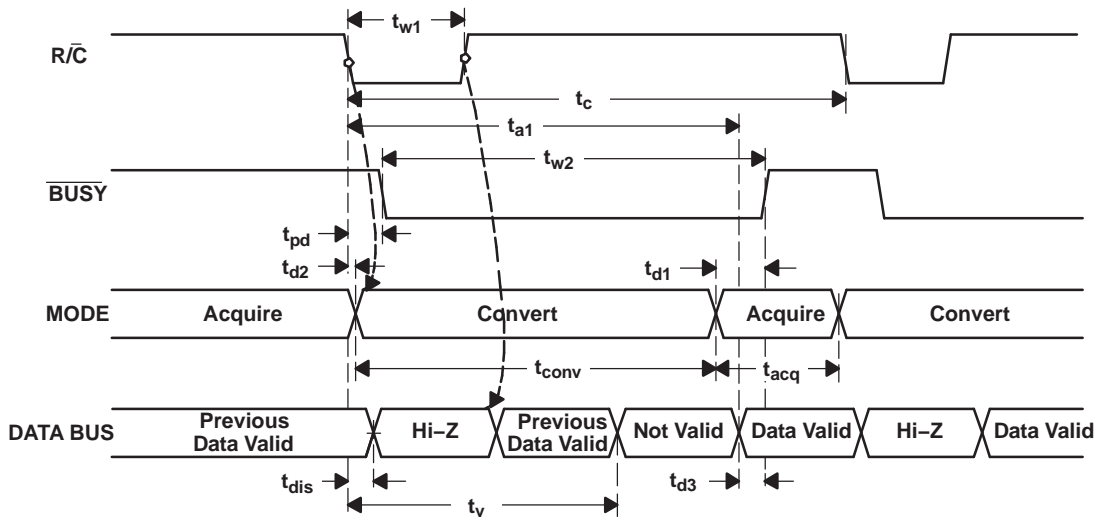
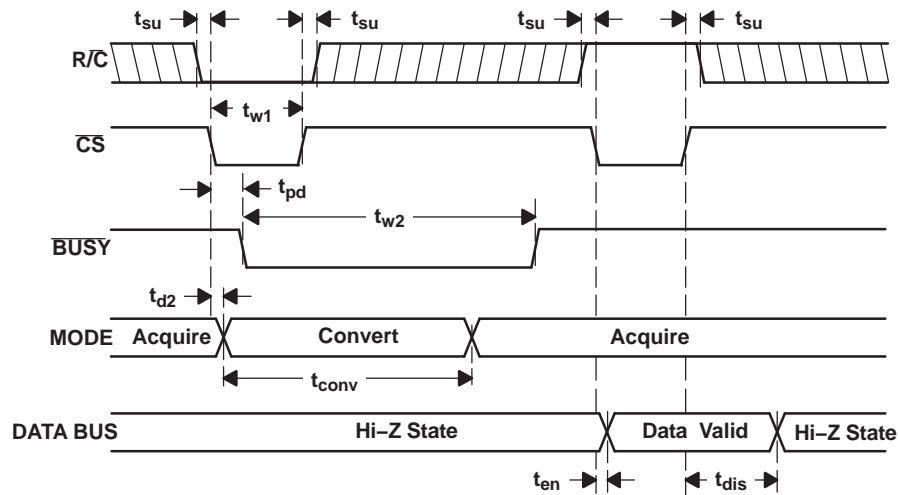
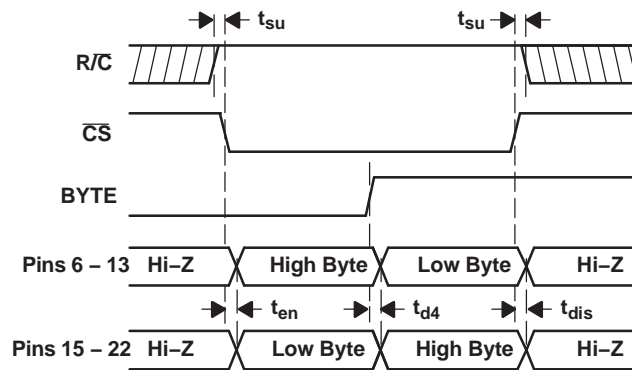

Figure 21. Conversion Timing with Outputs Enabled after Conversion ( $\overline{CS}$  Tied Low)
Figure 22. Using  $\overline{CS}$  to Control Conversion and Read Timing
Figure 23. Using  $\overline{CS}$  and BYTE to Control Data Bus
The ADS8515 begins tracking the input signal at the end of the conversion. Allowing 4  $\mu$ s between convert commands assures accurate acquisition of a new signal. Refer to Table 1 for a summary of  $\overline{CS}$ ,  $\overline{R/C}$ , and  $\overline{BUSY}$  states and Figure 21, Figure 22, and Figure 23 for the timing diagrams.
(1) See Figure 21 and Figure 22 for constraints on data valid from conversion  $n - 1$ .
After conversion  $n$  is completed and the output registers have been updated,  $\overline{\text{BUSY}}$  (pin 26) goes high. Valid data from conversion  $n$  are available on D15 to D0 (pins 6 to 13 and 15 to 22).  $\overline{\text{BUSY}}$  going high can be used to latch the data. Refer to Table 3 and Figure 21, Figure 22, and Figure 23 for timing specifications.
After conversion  $n$  has been initiated, valid data from conversion  $-1$  can be read and are valid up to  $t_2$  after the start of conversion  $n$ . Do not attempt to read data from  $t_2$  after the start of conversion  $n$  until  $\overline{\text{BUSY}}$  (pin 26) goes high; this may result in reading invalid data. Refer to Table 3 and Figure 21, Figure 22, and Figure 23 for timing specifications.
The number of control lines can be reduced by tying  $\overline{\text{CS}}$  low while using the falling edge of  $\overline{\text{R}/\overline{\text{C}}}$  to initiate conversions and the rising edge of  $\overline{\text{R}/\overline{\text{C}}}$  to activate the output mode of the converter. See Figure 21.